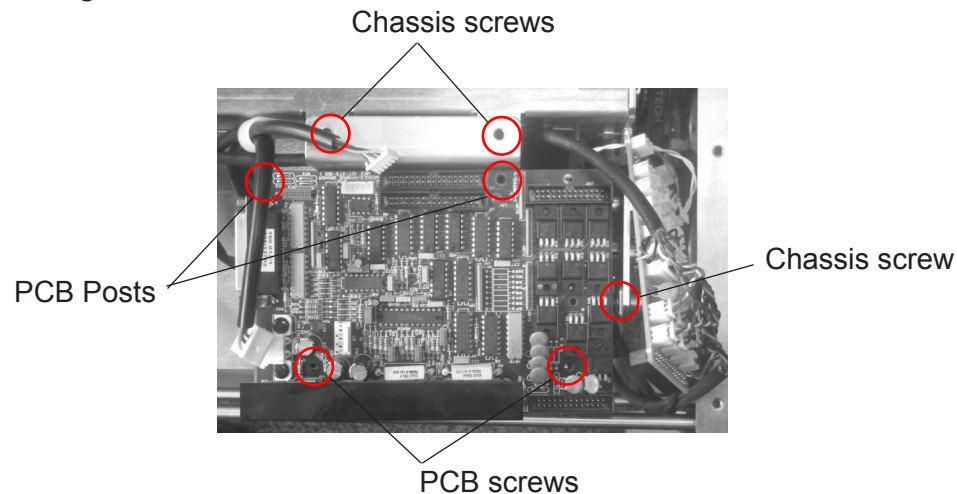

Fig. 24
5. Disconnect the cables to the circuit board. Pull off the daughter board, remove the metal plate over the board, and then the securing screws/posts securing the board. Do **not** disconnect cables from the daughterboard. Remove the 3 chassis screws and lift out of the chassis. See Fig. 24 below: